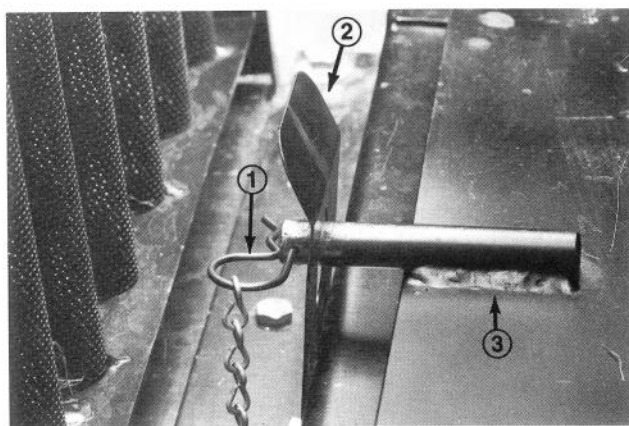

Figure 4
**Note:** Traction unit mounting plate can be flipped up by removing the hair pin and pulling back on the locking spring flap (Fig. 4).